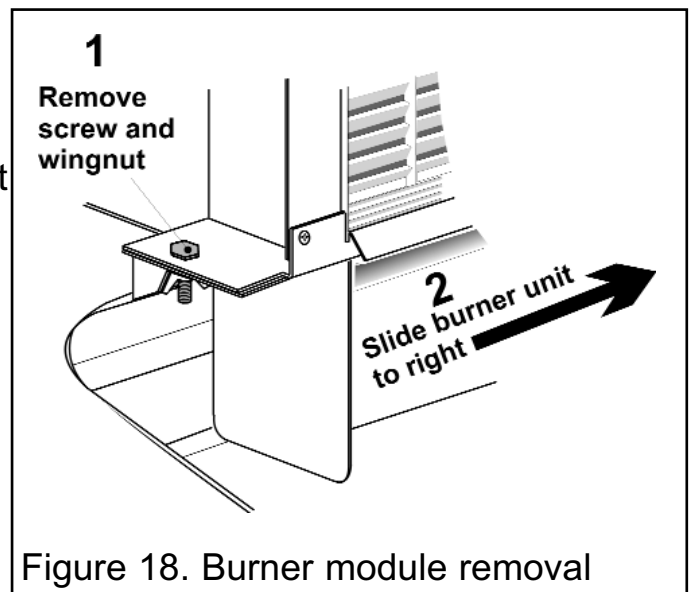

Figure 18. Burner module removal
6. Detach the left end of the burner module from the radiant box by removing one screw and a wing nut (See figure 18).
7. Carefully slide the burner module to the right to free it from the right side of the radiant box (See figure 18).
8. Detach the left end of the burner module from the radiant box by removing one screw and a wing nut (See figure 18).
The gas flow controller and pivot bracket are identified in figure 18.